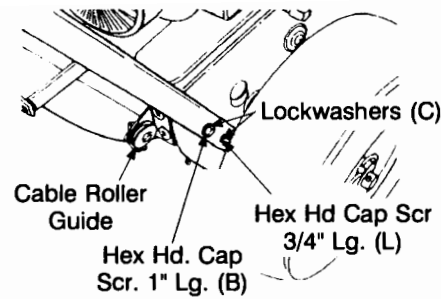

FIGURE 4
- Resting the lower handle on the floor behind the machine, line up the lower holes in the handle with the lower holes in the frame sides and secure with lockwashers (C) and hex screws (L). See Figure 4. **NOTE: Hex screws have a chemical patch which sets after bolt is assembled.**
- Raise the lower handle up aligning upper holes in the handle with remaining hole in the frame. Secure to the frame with lockwashers (C) and hex screws (B). See Figure 4.
- Make certain all cables are in the grooves of the cable roller guides. The roller guides are located on the engine frame at the rear of the unit, see Figure 4.